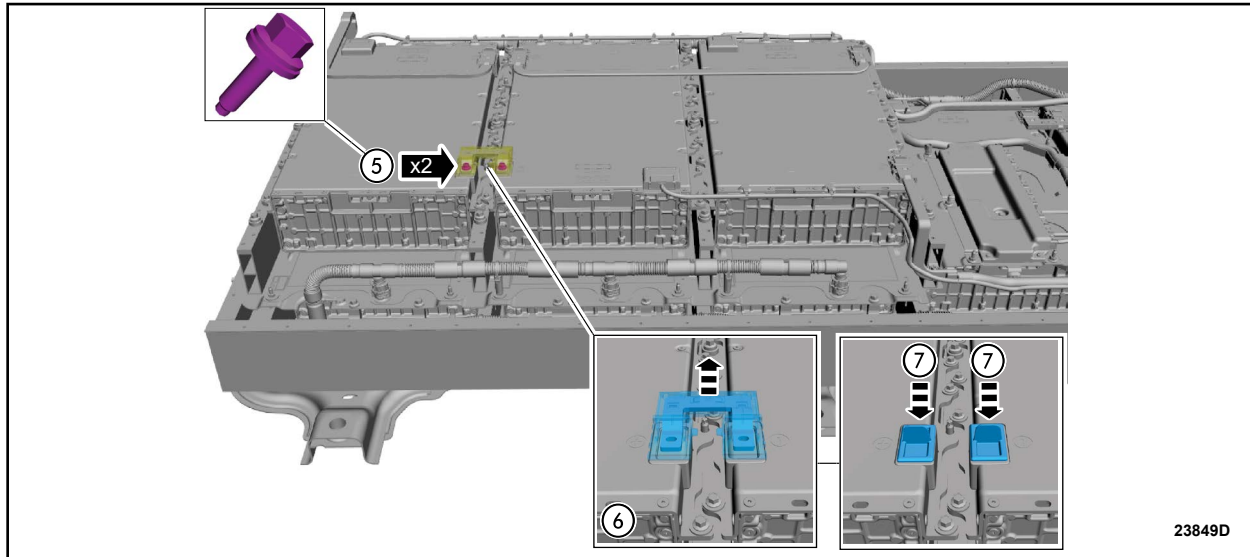

FIGURE 4
5. Open the terminal covers and remove the bolts. See Figure 4.
6. Remove the bus bar. See Figure 4.
7. Install the battery module terminal covers. See Figure 4.